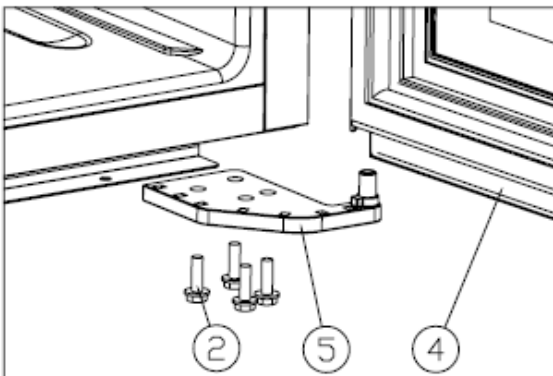

Figure 2
- ✧ Unscrew the M5\*16screws②, dismantle the right lower hinge⑤).[Figure 2]